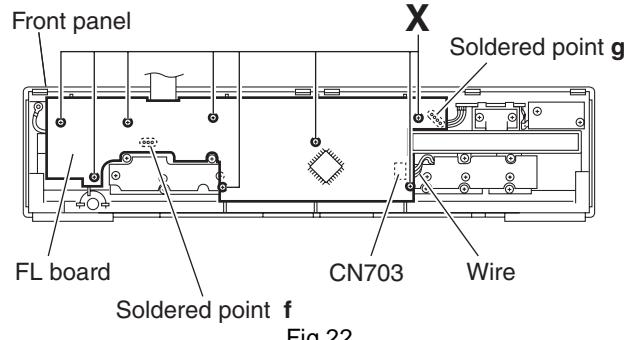

Fig.22
- From the back side of the front panel assembly, remove the eight screws **X** attaching the FL board. (See Fig.22.)
- Disconnect the wire from the connector CN703 on the FL board while lifting the FL board slightly. (See Fig.22.)
- Remove the solders from the soldered points **f** and **g** attaching the parallel wires while lifting the FL board. (See Fig.22.)